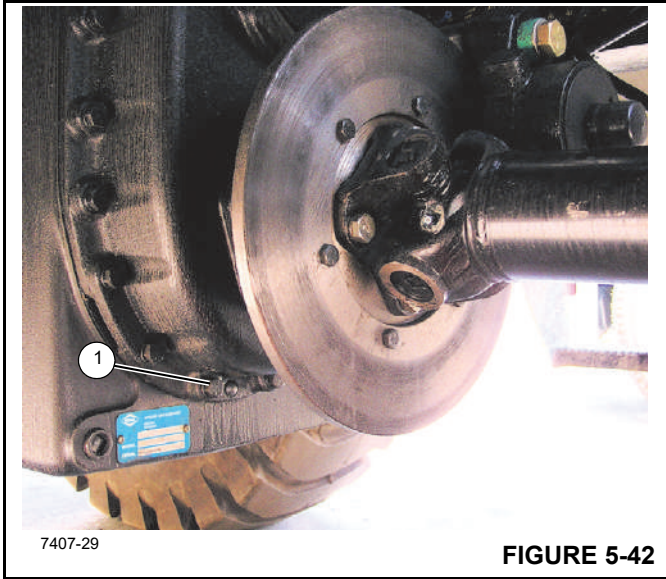

FIGURE 5-42
3. Place suitable container under the transmission drain plug (1, Figure 5-42).
4. Remove the plug (1, Figure 5-42). Drain the transmission into the container. Re-install the drain plug.